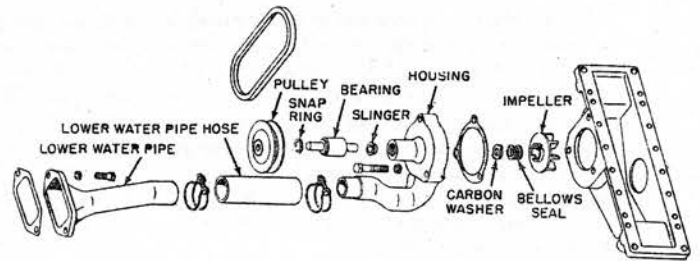

Fig. 22B Exploded view of Model 60 water pump. Models 50, A, B, G are similar
**MODELS 50, 60**—The water pump is bolted to the radiator bottom tank and is driven by the generator belt. The pump shaft is mounted on prelubricated ball bearings, Fig. 22B. A bellows-type seal and carbon sealing washer prevent leakage around the shaft. If seal or washer becomes worn or damaged, water will be present at the drain hole in the bottom of the housing.